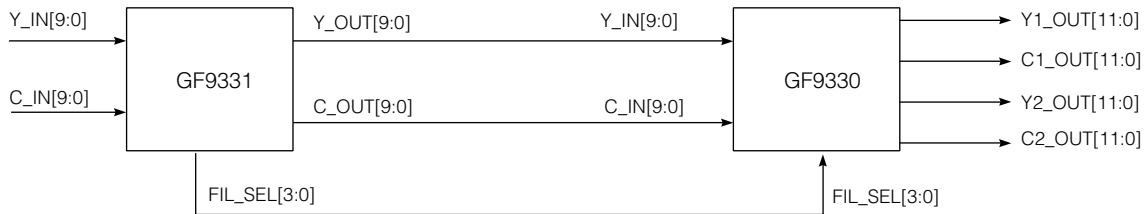

Fig. 3 Using the GF9331 with the GF9330 for Motion Adaptive De-interlacing
**NOTE:** When using the GF9331, the Y\_IN[9:0] of the GF9330 must be connect to the Y\_OUT[9:0] of the GF9331 and the C\_IN[9:0] of the GF9330 must be connected to the C\_OUT[9:0] of the GF9331. The FIL\_SEL[3:0] output of the GF9331 must be connected to the FIL\_SEL[3:0] input of the GF9330. Refer to Figure 3 for a pictorial description of connections between the GF9330 and the GF9331.